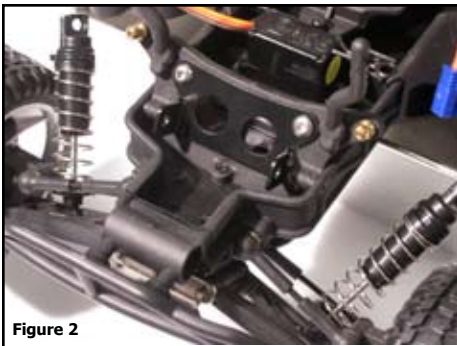

Figure 2
1. Remove the body. Prop up the car on a block and remove the front upper shock eyes. Attach *Cage-mount 1* to the front shock tower with (2) *M3x10 BHCS*, as shown in *Figure 2*. Put the *Flat Washers* on the back side of the shock tower, and secure with *M3 Locknuts*.